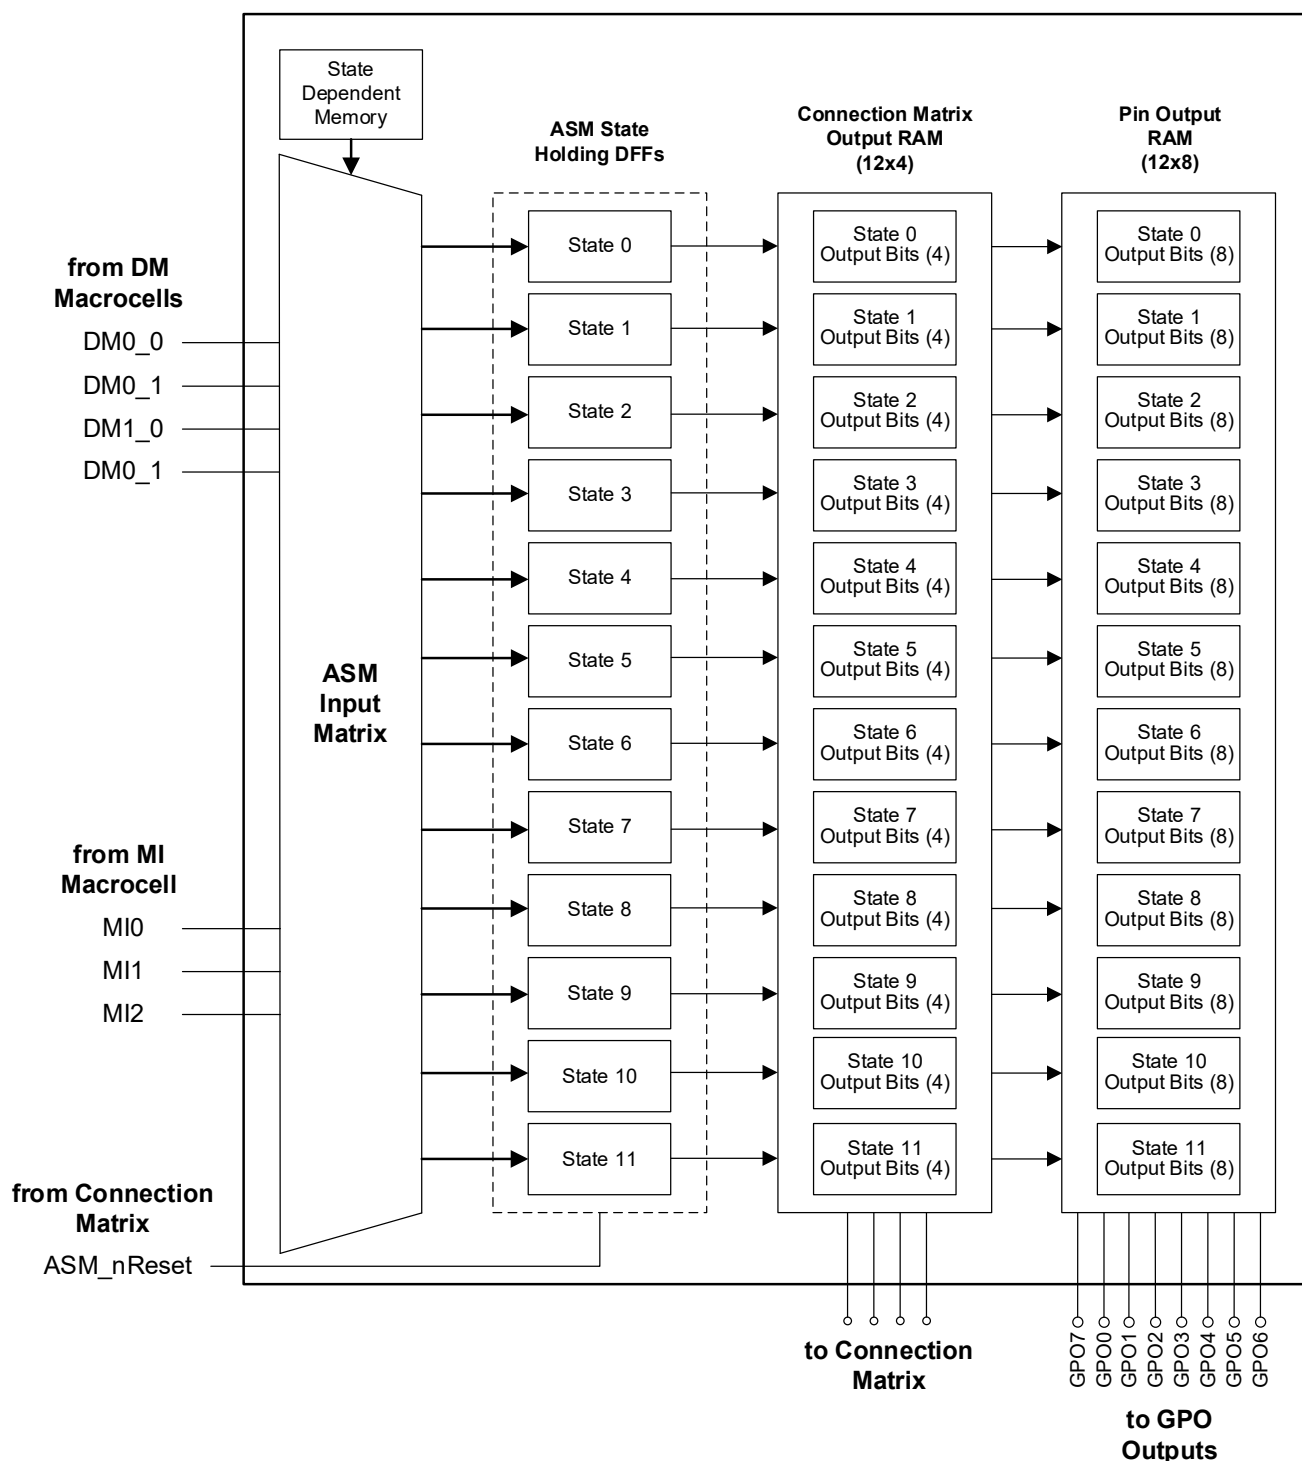

Figure 109. 12 State ASM Macrocell
The ASM macrocell has a total of 8 input signal lines, as shown in Figure 109, which come from a combination of three Matrix Interface (MI) macrocell outputs and DM macrocell outputs. Of these 8 inputs, 3 are user selectable inputs coming from the three Matrix Interface (MI) macrocells (one per macrocell) to the ASM macrocell. There are also 4 inputs that come from the DMx_x macrocells (one per macrocell). There is 1 ASM_nReset input that is for driving a state transition in the ASM macrocell to a user defined Initial/Reset state.
The Go Configure Software Hub development tools support user designs for the ASM macrocell at both the physical level and logic level. Figure 109 is a representation of the user design at the logical level, and Figure 109 shows the physical resources inside the various macrocells in the ASM Subsystem. To best utilize this subsystem, the user must develop a logical representation of their desired state machine, as well as a physical mapping of the input and outputs required for the desired functionality.
The ASM macrocell has a total of 8 input signal lines, as shown in Figure 109, which come from a combination of Connection Matrix outputs and DM macrocell outputs.